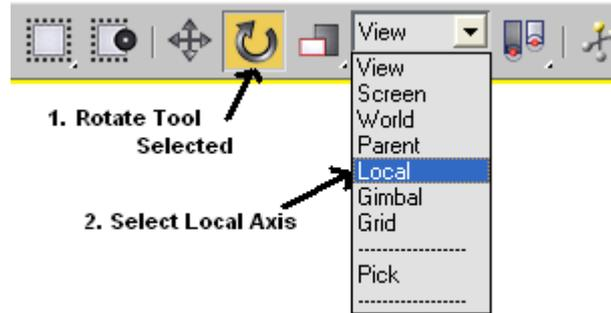

Figure11: Local Axis selection
- iv. Now first check the Local Rotation Axis of the Bone Fingers, by first selecting the rotate tool and then select the Local axis from the drop down list on Main Toolbar highlighted in Figure11.